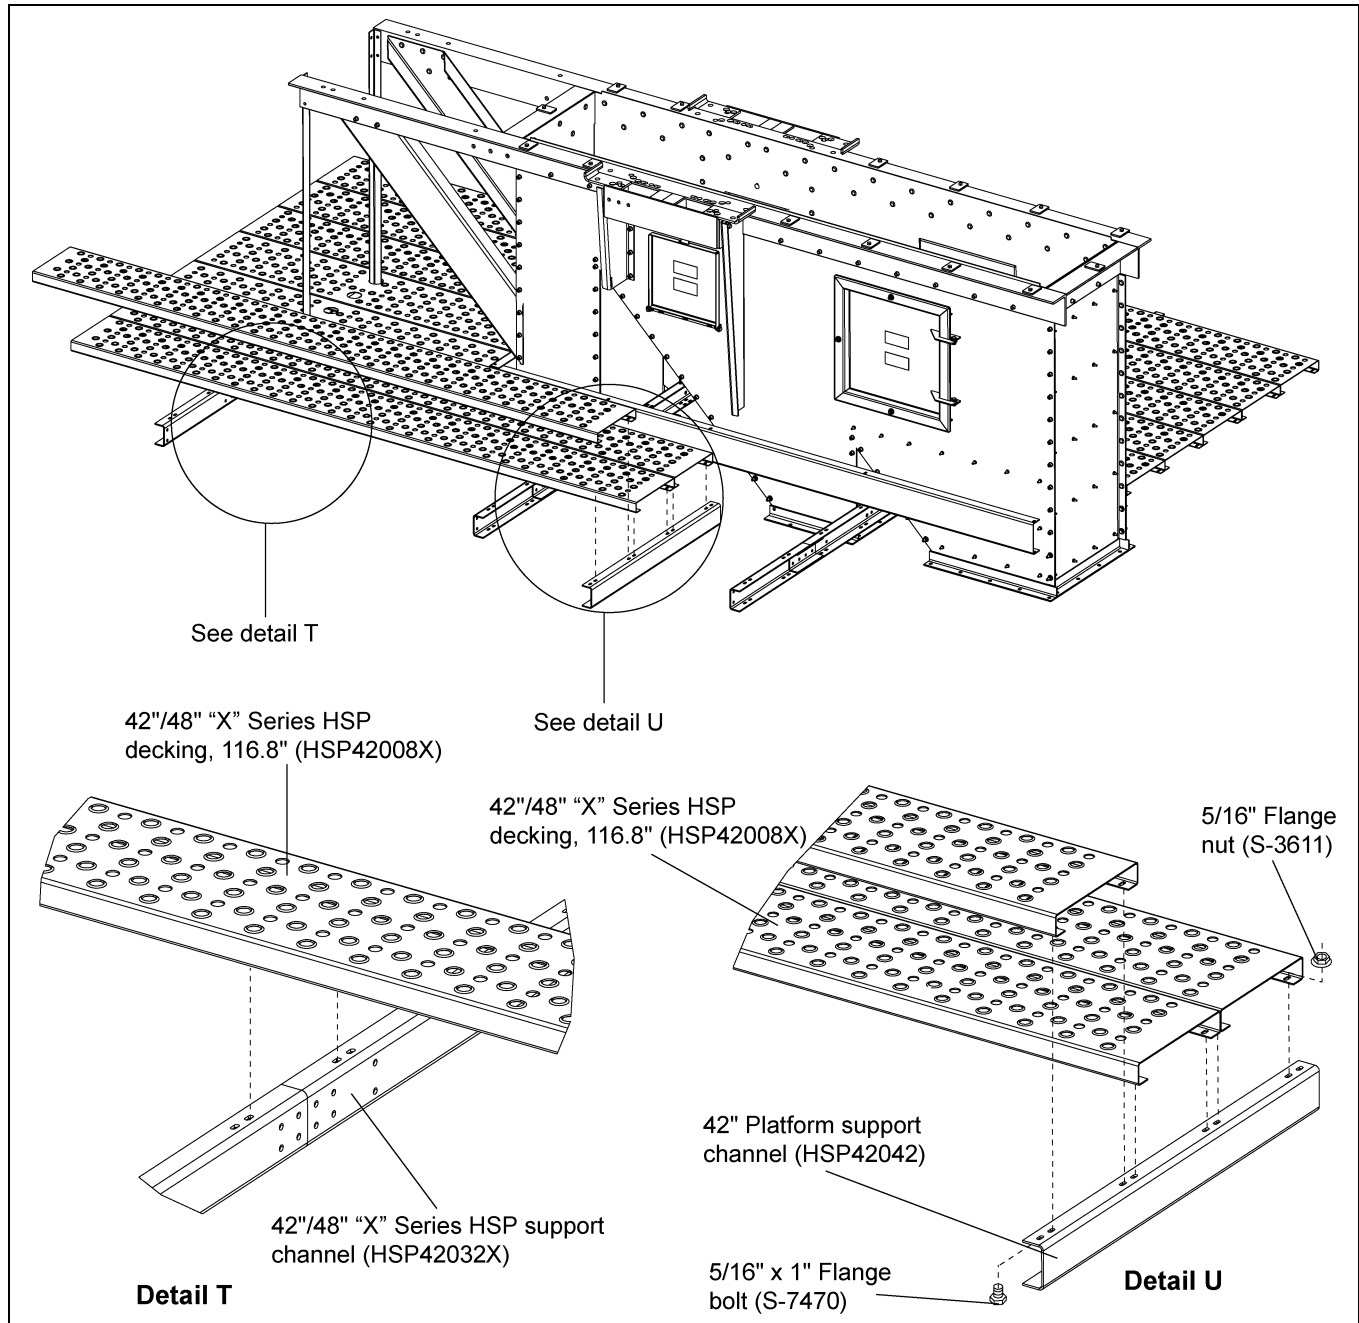

Figure 8J
1. Install the 40" support channel (HSP4248HS) to the end of the decking planks (HSP42008X) and the bottom of the toe board (HSP42018X) using 5/16" x 1" flange bolts (S-7470) and 5/16" flange nuts (S-3611). (See Figure 8J.)